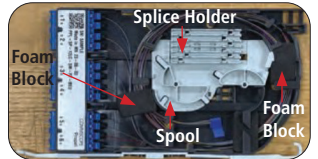

Figure 2
2. Prepare to place feeder fiber in cassette. Remove spool and splice holder from cassette, then remove and discard foam blocks. **(Figure 2)**